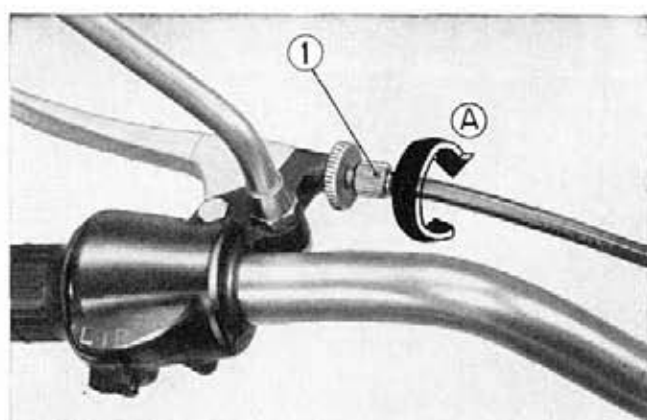

Fig. 19-11 ① Clutch cable adjusting bolt
- (2) To adjust, perform the following steps.
- a. Screw the clutch cable adjusting bolt ①, located at the clutch lever, all the way into the clutch lever bracket. (Fig. 19-11)